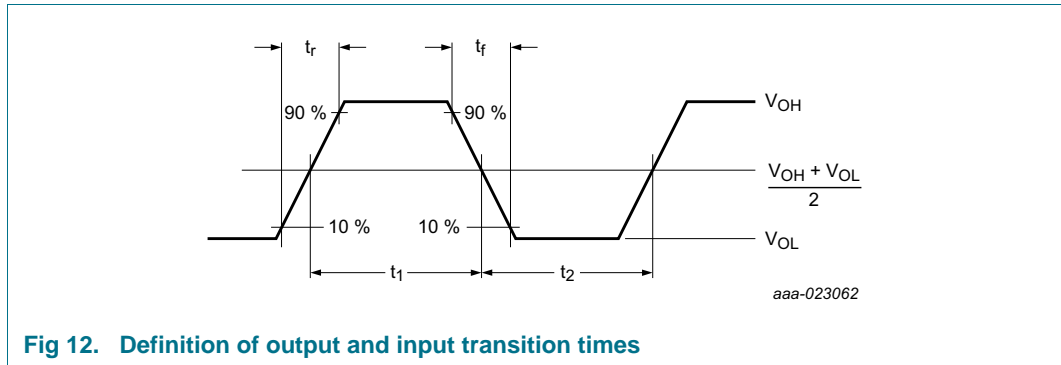

Fig 12. Definition of output and input transition times
- [5] Transition time and duty factor definitions are shown in Figure 12;  $\delta = \frac{t_1}{t_1 + t_2}$